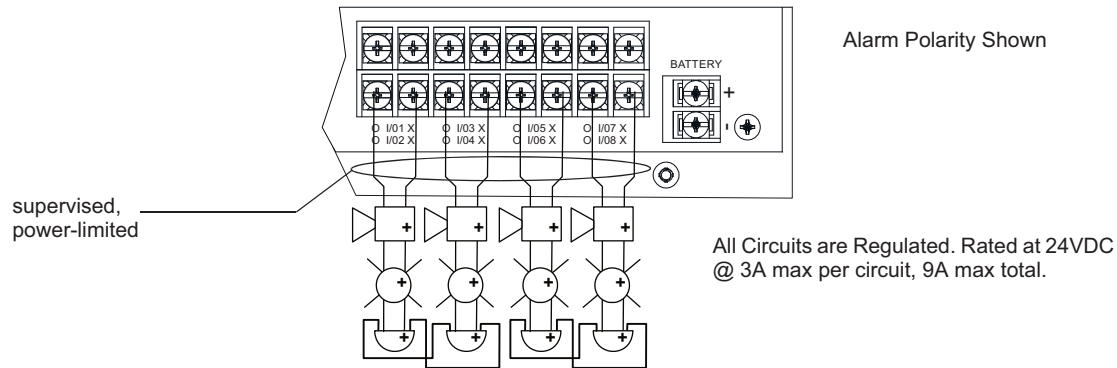

Figure 4.47 Class A Notification Appliance Circuit Wiring
1. Wire the Class A notification appliances as shown in Figure 4.47.
NOTE: In programming any point that uses multiple Flexput circuits, the lowest Flexput circuit number is used to refer to the circuit pair. For example, Figure 4.47 uses both Flexput circuit 1 and 2, so in programming, these would be referred to as point 1.